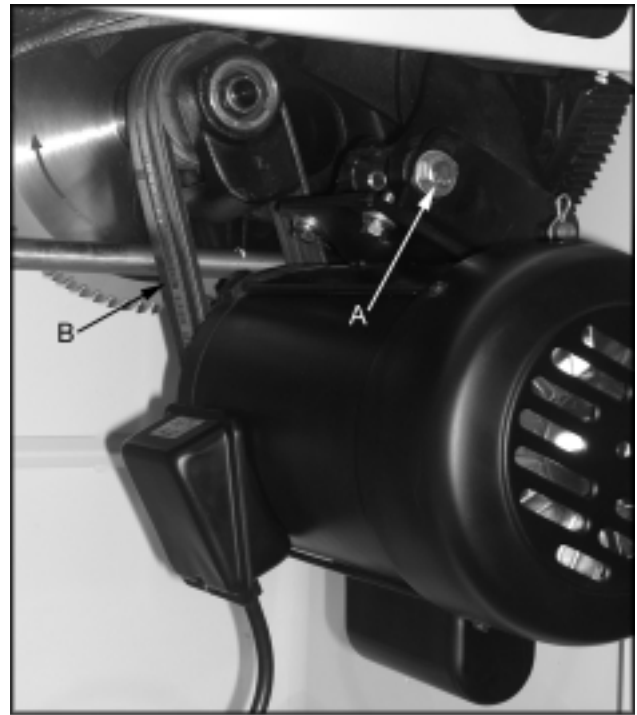

Fig. 18
3. Loosen two hex cap bolts (A, Fig. 18).
4. Take the tension off of the belts (B, Fig. 18) by lifting up on the motor.
6. Replace and tension the belts. The weight of the motor should apply enough tension to the belts. Tighten the hex cap bolts (A, Fig. 18).